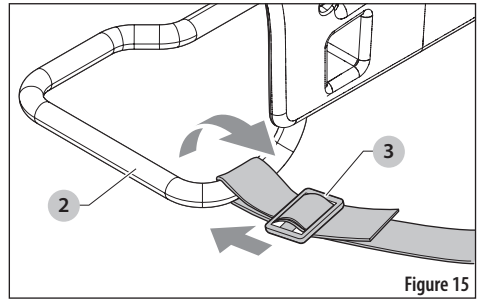

Figure 15
3. For the lower straps, remove the strap from the top portion of the buckles (3) and place around the foot stand (2), starting from underneath. See Figure 15.
4. Loop the strap through the first section of the buckle (3). Then loop the strap through the other section of the buckle (3) to tighten. Adjust the shoulder pads and strap lengths for a comfortable fit.